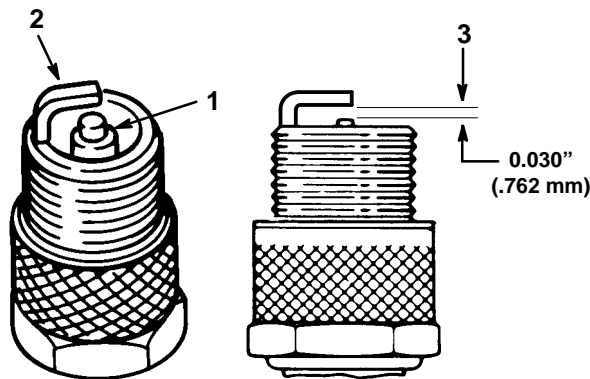

Figure 10
1. Look at the center of the spark plug(s) (Fig. 10). If you see light brown or gray on the insulator, the engine is operating properly. A black coating on the insulator usually means the air cleaner is dirty.
2. Check the gap between the center and side electrodes (Fig. 10). Bend the side electrode (Fig. 10) if the gap is not correct.